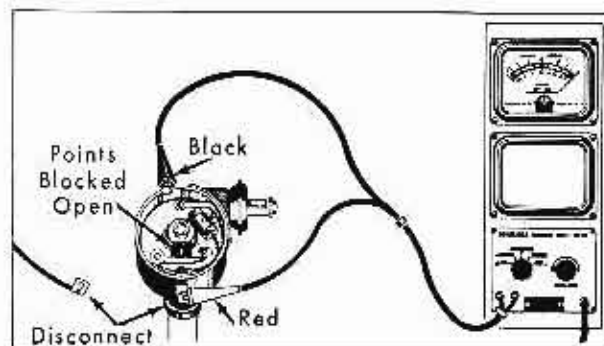

Fig. 11-27 Condenser Tests
1. After calibrating tester, leave switch in "Microhm" position and connect test leads as shown in Fig. 11-27.